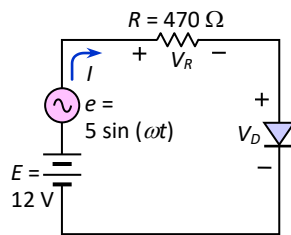

Fig.3-98: Circuit for Exercise 5
5. As shown in the Fig.3-98, a silicon diode is biased with 12 V DC and then an AC signal $e(t) = 5 \sin(\omega t)$ is applied. The bulk resistance of the diode is $2\ \Omega$, calculate the current through and the voltage drop across the diode. Sketch the current versus time graph.